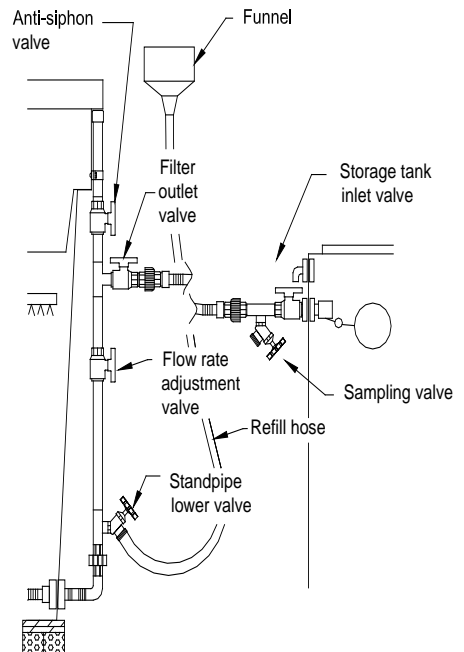

Figure 6-1
**Step 2.** Close the filter inlet valve and allow the filter water level to drop to the “paused” level. Close the storage tank inlet valve. Attach the refill hose to the lower valve on the filter standpipe. Insert a funnel into the end of the hose. Ensure the flow rate adjustment valve and the anti-siphoning valve are open. Open the lower valve on the filter standpipe (figure 6-1).